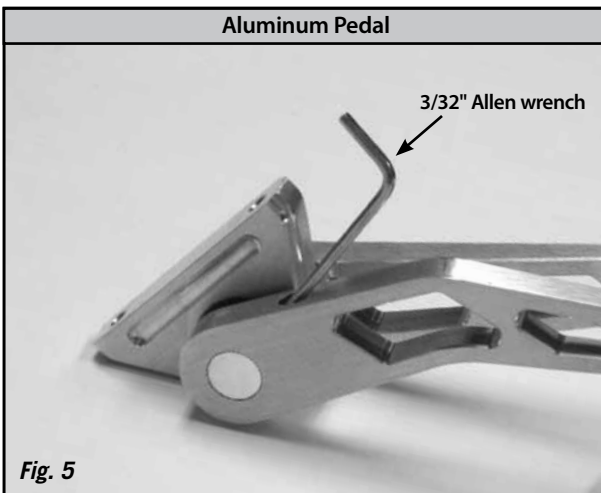
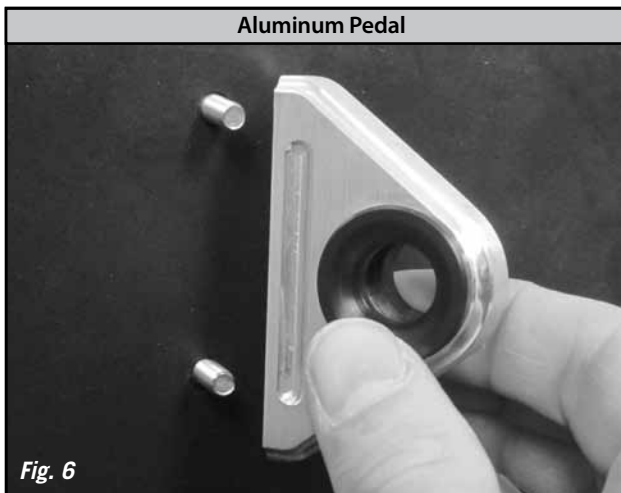

Fig. 5
Fig. 6
Step 3: Aluminum Throttle Pedals Remove the lower arm from the Lokar throttle pedal assembly by loosening the #10-24 x 1/4" set screw in the lower arm using a 3/32" Allen wrench. **Fig. 5** Slide the mounting base off of the assembly and use it to mark the locations of the two bolt holes to be drilled in your firewall. Use a 7/32" drill bit to drill the holes, and install the throttle pedal mounting base using two #10-32 bolts (not included). **Fig. 6**